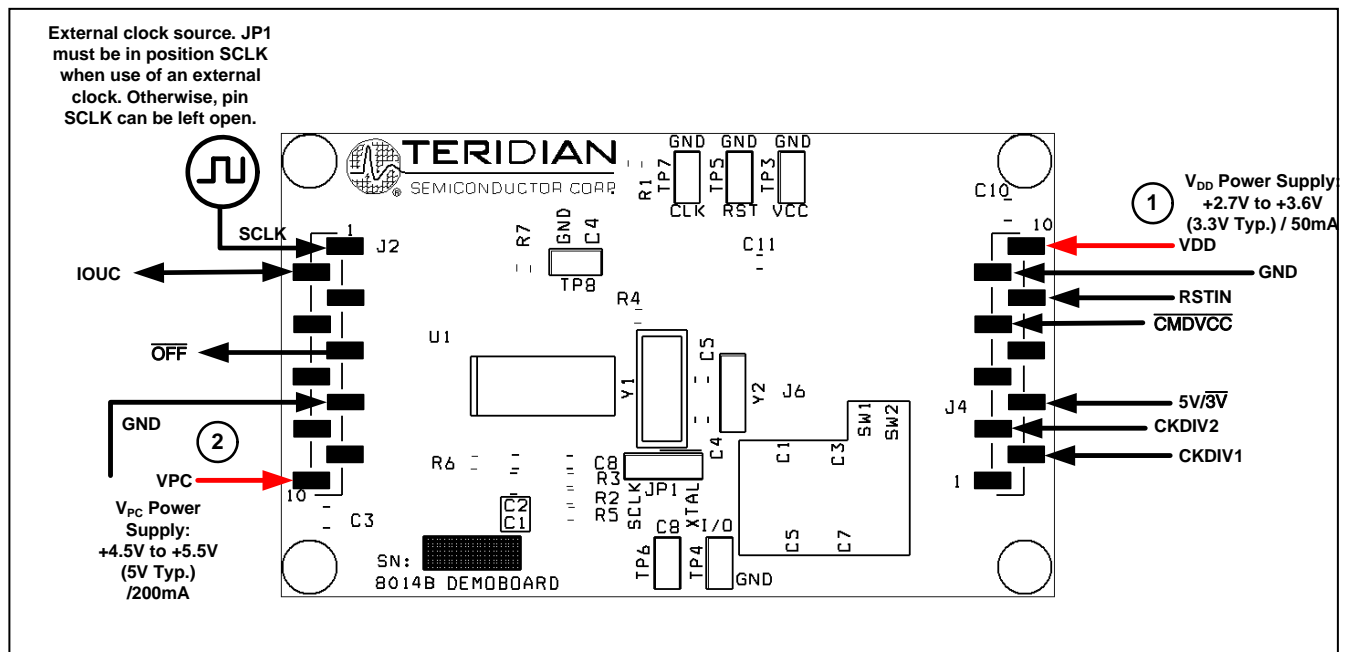
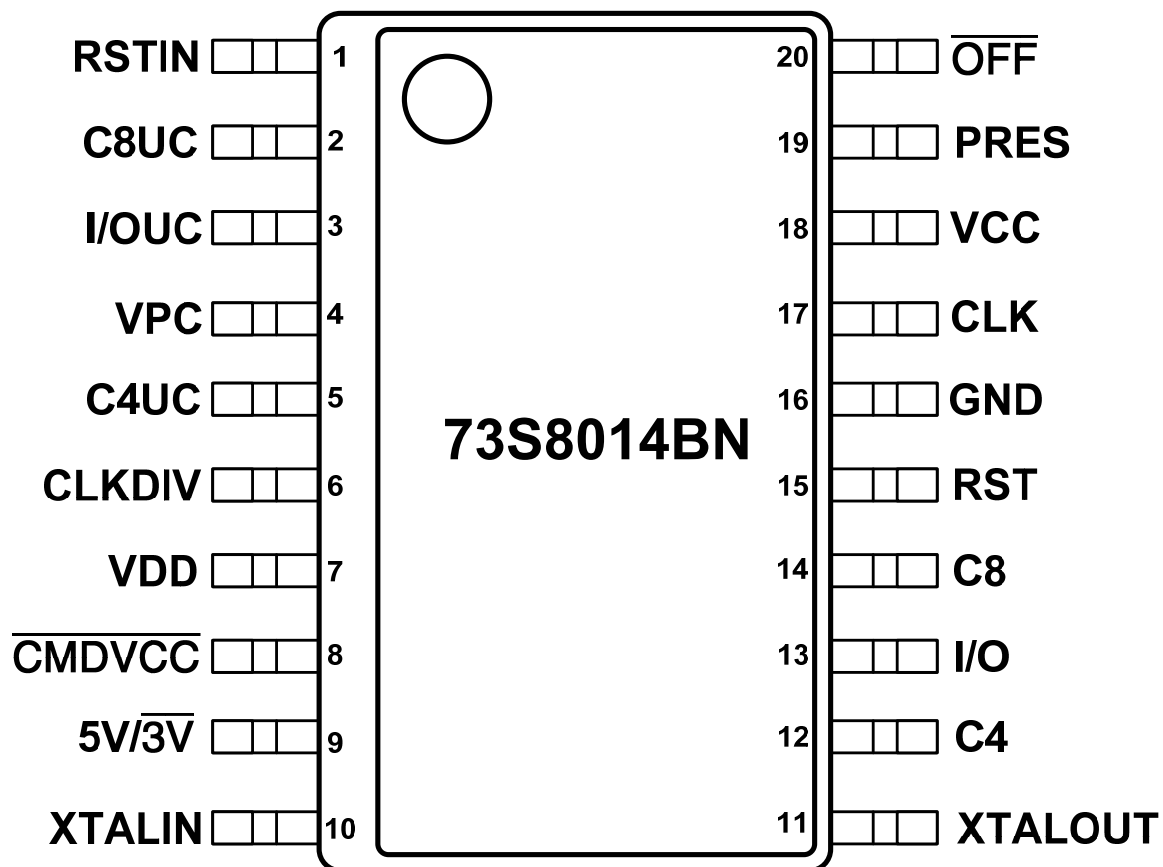

Figure 2: 73S8014BN Demo Board: Basic Connections
Figure 4: 73S8014BN Pinout
Figure 2 shows the basic connections of the demo board.
- Control signals to the device can be connected through J2 and J4 (see Figure 2 and the electrical schematic Figure 4).
- Apply 3.3V (1) or GND (0) to CLKDIV1 and CLKDIV2 pins allows the following: